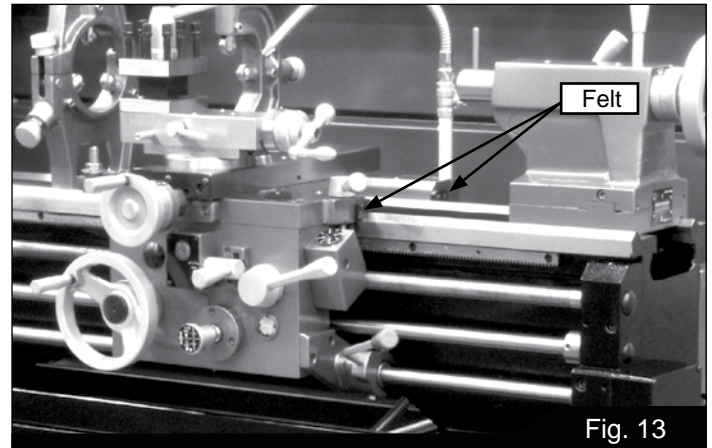

Fig. 13
5. Saddle – The anti-dust felt on both ends of the saddle (Figure 13) should be cleaned weekly with kerosene. If the felt becomes damaged, replace it.
All ball oilers must be lubricated with SAE-20W oil (Mobil DTE® Oil Heavy Medium), as follows. Refer to Figures 13 and 14.